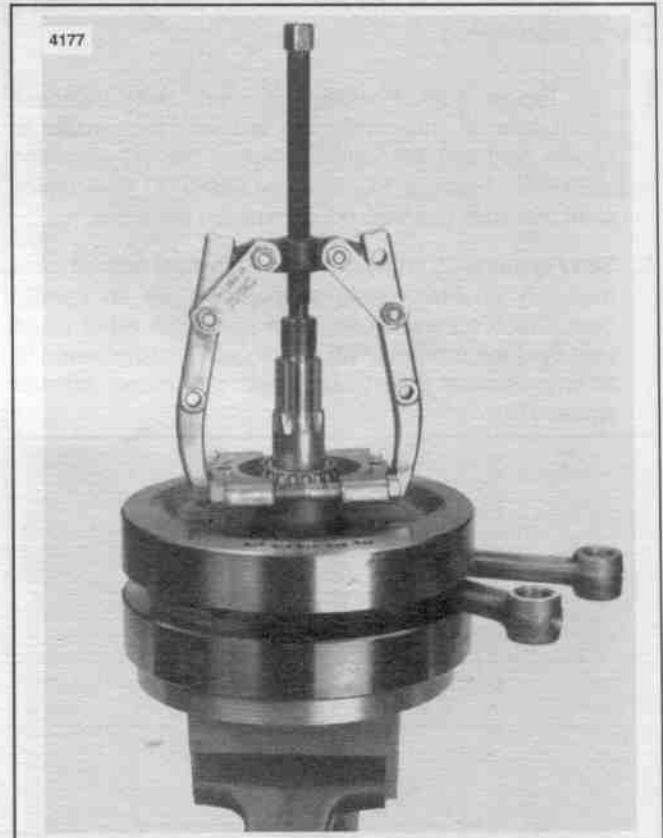

Figure 3-68. Pull Bearing from Sprocket Shaft
- See Figure 3-68. If flywheels are to be disassembled, place a FLYWHEEL REBUILDING JIG, Part No. HD-34813 in a vise. Insert pinion shaft into fixture and install WEDGE ATTACHMENT, Part No. HD-95637-46 and GENERAL PURPOSE CLAW PULLER, Part No. HD-95635-46 over sprocket shaft bearing. Turn forcing screw to remove bearing. Keep bearings in a set with proper bearing outer races.